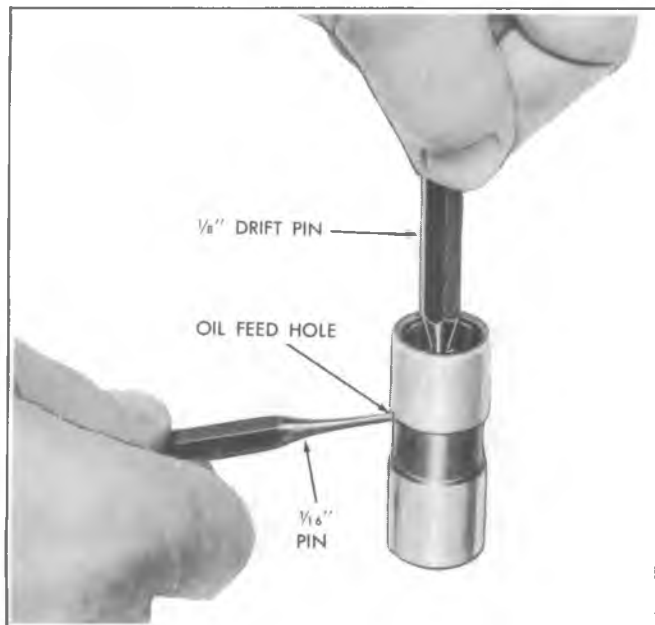

Fig. 6A5-17--Assembling Hydraulic Lifter
5. Insert a 1/16" drift pin through both oil holes to hold the plunger down against the lifter spring tension (fig. 6A5-17).
7. Install the metering valve and push rod seat (fig. 6A5-14).